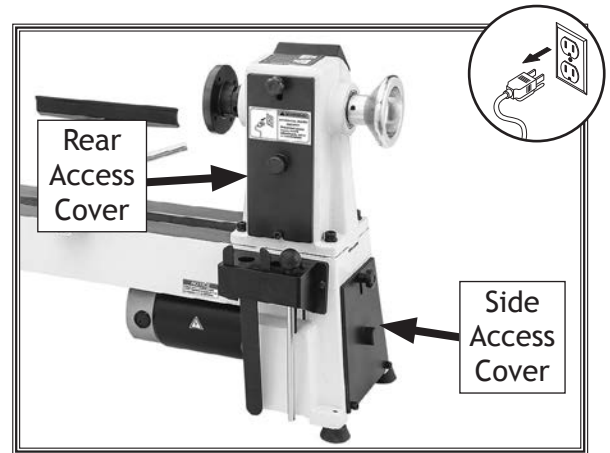

Figure 21. Belt access covers.
2. Remove side access cover and rear access cover (see Figure 21).